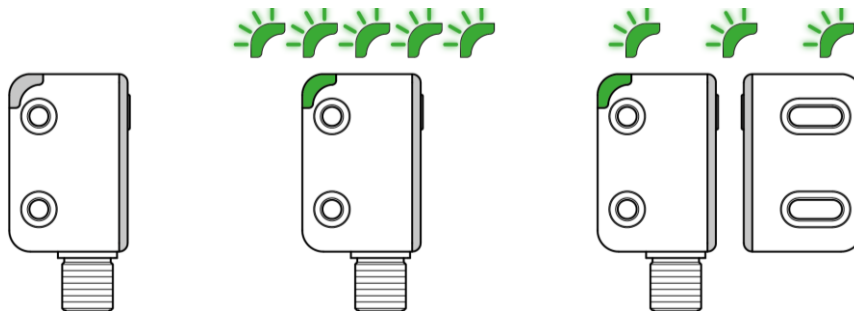

Figure 29 - Teach-in signals
- Power on the R-Safe RFID sensor (Figure 29, condition A).
- After power on, the sensor will be ready for pairing with the actuator (Figure 29, condition B).
- When the actuator is approaching the RFID sensor at a distance  $\leq 2\text{mm}$ , the sensor is programmed after 5 seconds (Figure 29, condition C).